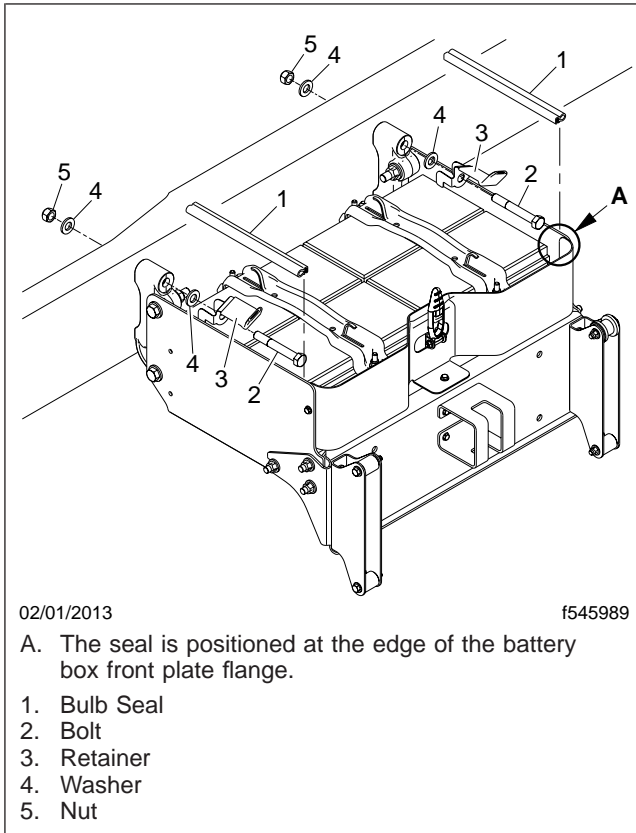
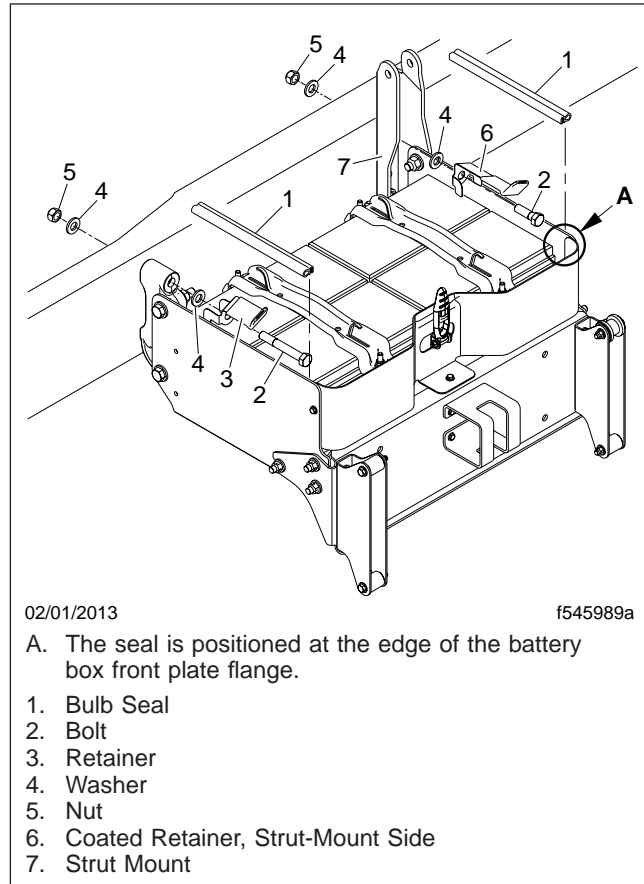

Fig. 1, Battery Box Retainer Installation, All Vehicles Except Cascadia 113 BBC
Fig. 2, Battery Box Retainer Installation, Cascadia 113 BBC Vehicles
- 3.1 Position the seals at the edge of the battery box front plate flange, with the bulb-side of each seal oriented to the outside of the box. See Fig. 1 for all vehicles *except* Cascadia 113 BBC vehicles. See Fig. 2 for Cascadia 113 BBC vehicles.
5. Position the retainer between the washer and bolt head. See Fig. 1 and Fig. 2.